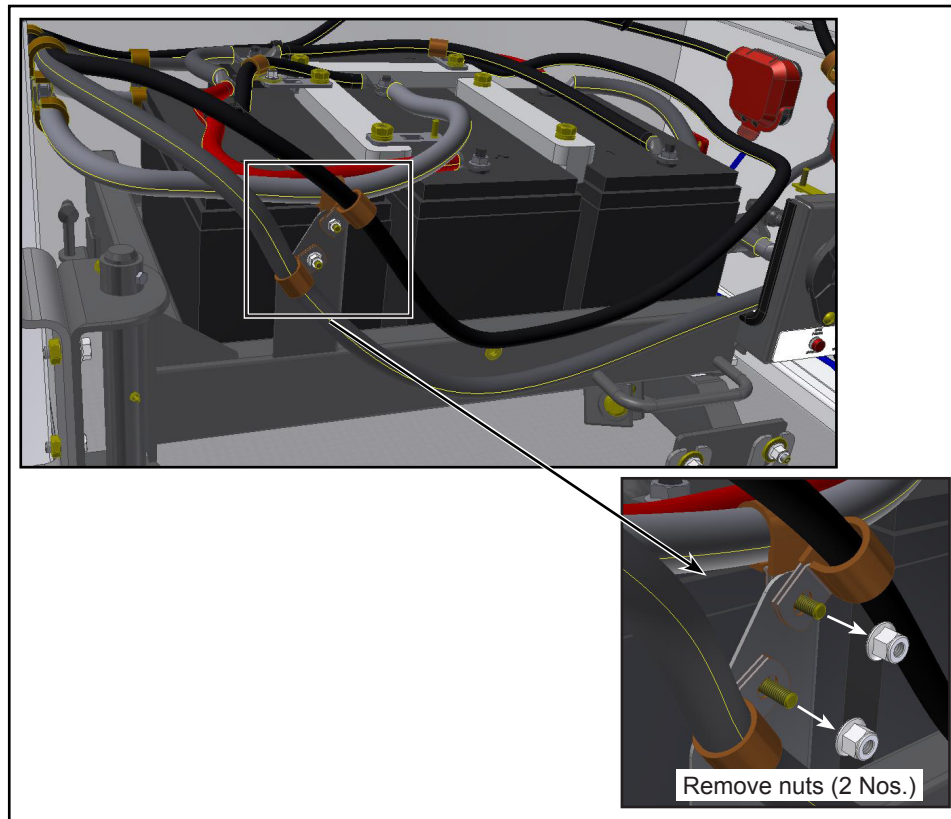

Figure 4 - Removal of Flange Nuts (2 Nos.)
- 1.11. Remove and retain the nuts of cables mounted on battery (see Figure 4).